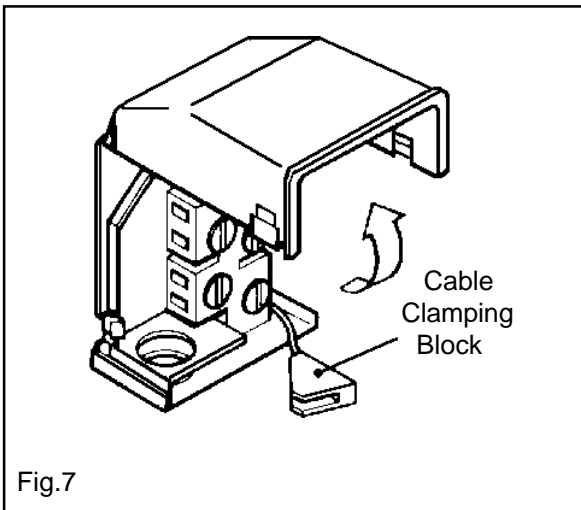

Fig.7
- Lift cover and remove screw from cable clamp. See Fig. 7.